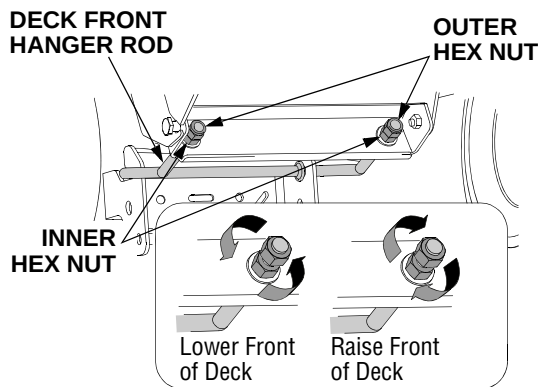

Figure 5-10
- From the front of the tractor, loosen the outer nuts on the deck front hanger rod, and turn them away from the inner nuts. (See Figure 5-10).